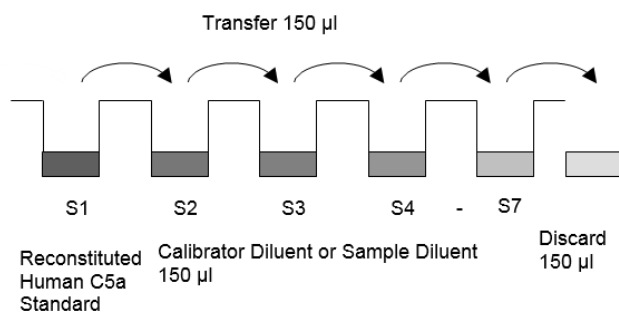

Fig. 7 External standard dilution
5. Repeat serial dilutions 4 more times thus creating the points of the standard curve (see Figure 7).